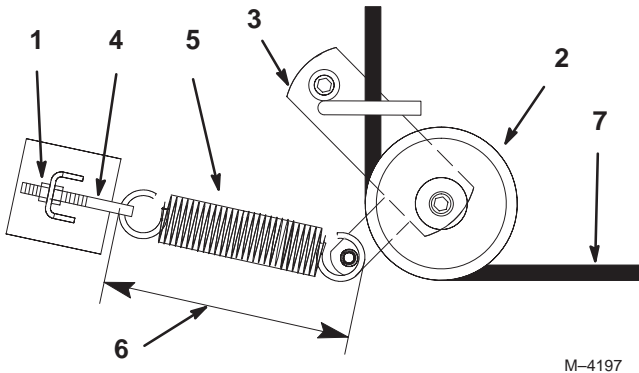

Figure 55
3. Loosen the outer nut on the spring eye bolt (Fig. 55).
5. Remove spring loaded idler pulley (Fig. 55).
6. Route the new belt through the idler arm (Fig. 55).
8. Tighten the outer nut on the spring eye bolt (Fig. 55).
Note: Check the spring length. The spring should measure 9-3/8 ± 1/8 inch (238 ± 3 mm) when installed. Adjust it if it does not (Fig. 55).